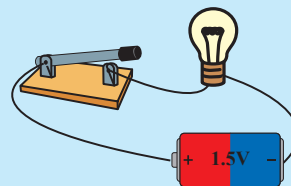

Figure 10.11 ▲
- Connect one bulb with a switch and a cell as shown in Figure 10.11.